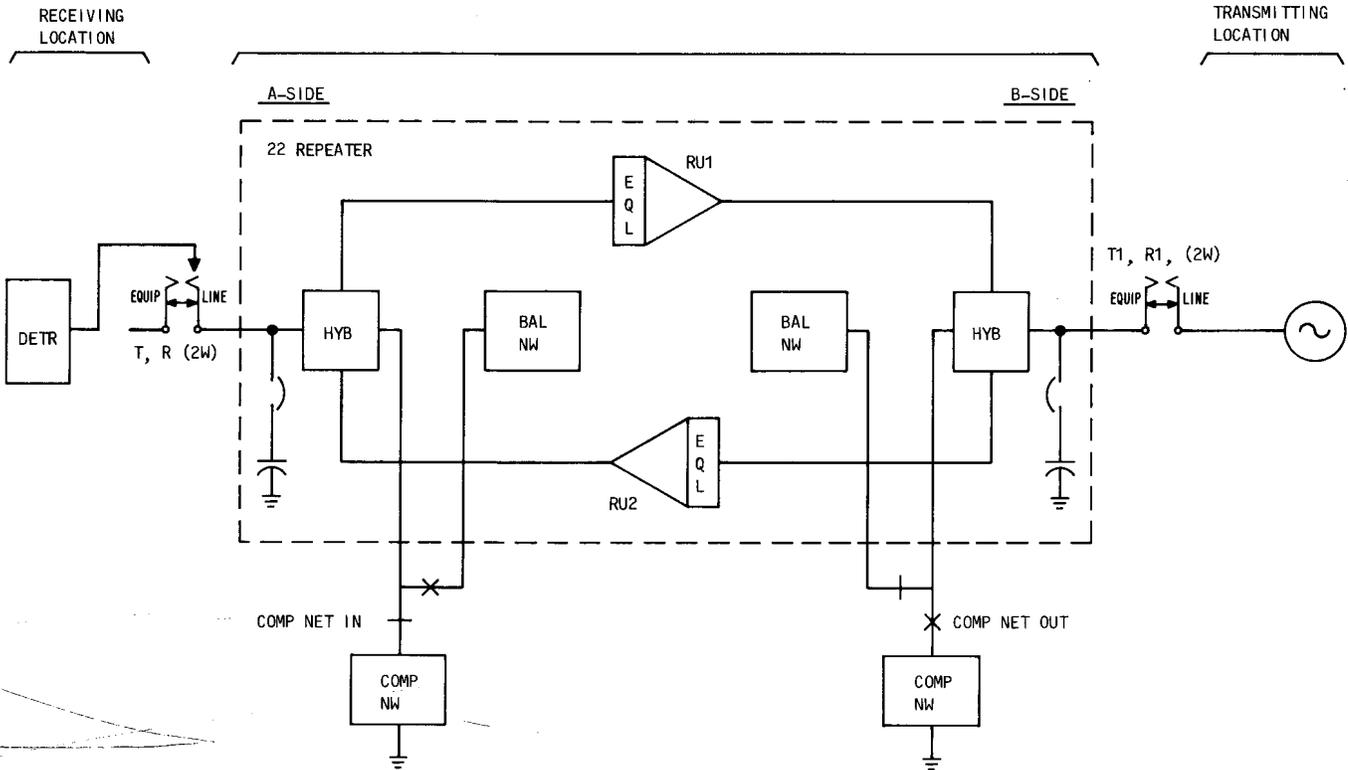

Fig. 6—Test Configuration for Terminal Repeater Frequency Response Measurements
7.04 The test configuration is shown in Fig. 6.